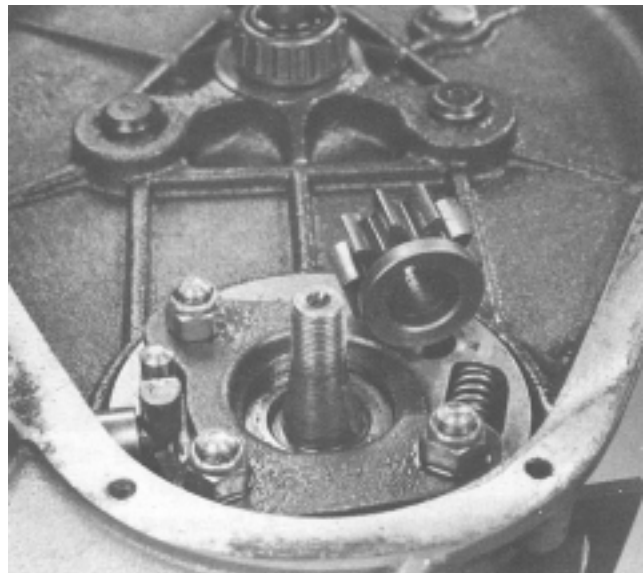

Figure 25
12. (Right end) Remove nut securing pinion gear to reel shaft. Insert a pry bar in groove provided and pry off pinion gear. Remove woodruff key from key way in reel shaft (Fig. 25).